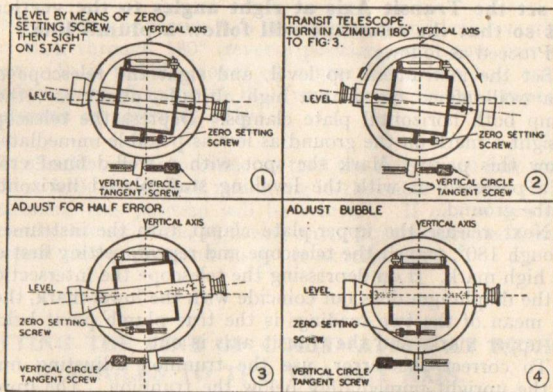

Fig. 9a
Level the Theodolite and direct the telescope on to a levelling staff held erect at from 80 ft. to 100 ft. The altitude bubble should then be levelled with the zero adjustment screw and the telescope set to zero by the vertical circle tangent screw, making a mean setting if necessary. A reading is then taken on the staff with the middle line of the diaphragm, Fig. 9a (1).
180° and a second reading taken, Fig. 9a (2 and 3). The mean of the two readings is the true level, and if the instrument is correctly adjusted the two readings should be the same. If it is not, correct as follows:—
Set the centre line of the diaphragm to the mean reading by means of the vertical circle tangent screw. Then set the verniers to zero by the zero setting screw, finally level the bubble by means of the adjusting collets, Fig. 9a (4).